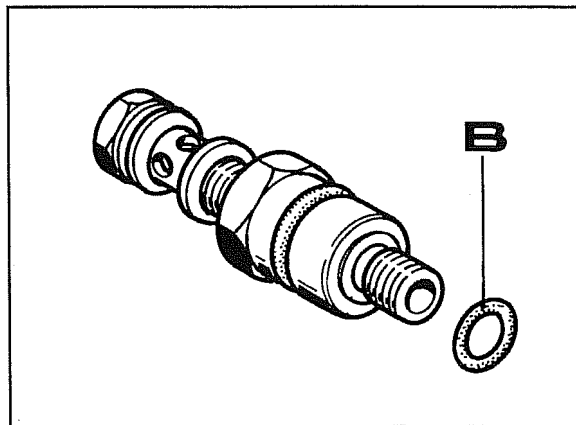

Fig. 28
4. Fig. 28 offers an exploded view of the parts making up the fitting. Check if seal **B** is intact and then refit the fitting and the delivery hose.